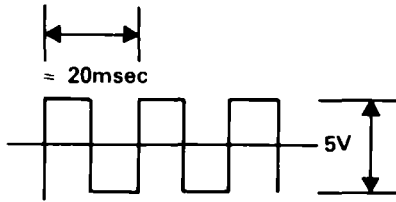

Figure 6. Waveform Checks
7. Waveform Checks (see Figure 6)